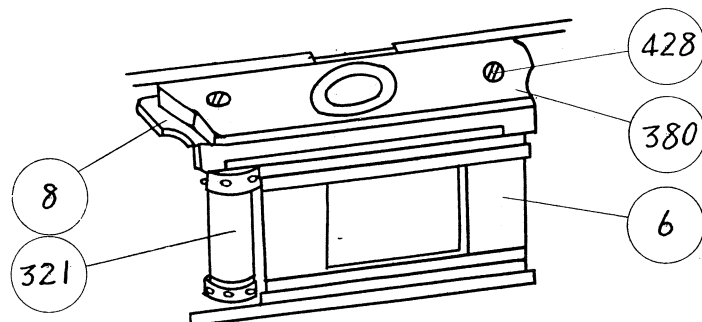

Fig. 3 Removal of Base-Cover
- (1) Remove the front cover according to "1".
- (2) Removing the focusing mount assembly: (Fig. 3)